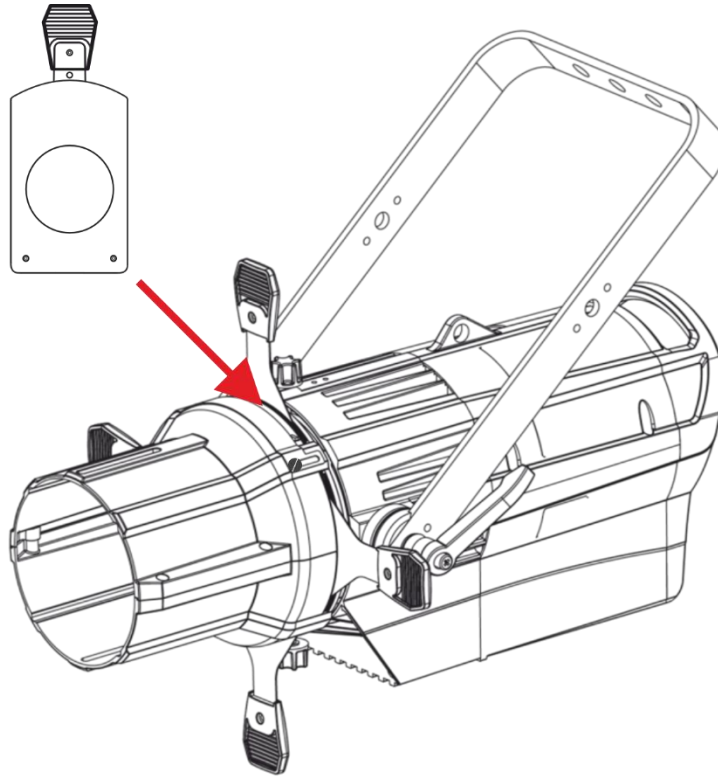

Fig. 12
An optional gobo holder can be inserted into the **gobo slot (10)** on the device as shown in Fig.12. See **3.4 Optional accessories** on page 11 for more information about the optional gobo holders.